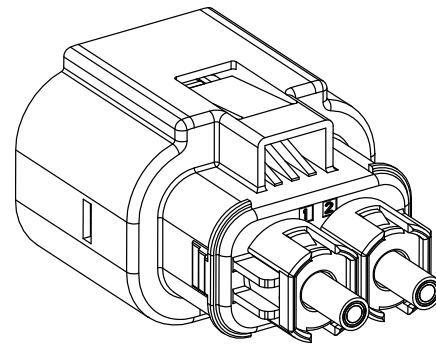

Figure 20
5. Repeat installation procedure for the second terminal cavity. See Figure 20.